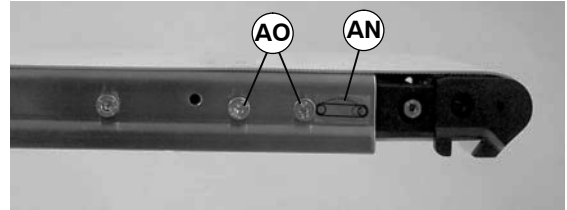

Figure 21
6. On tension end of the conveyor identified with a  label (AN of Figures 21 and 22), loosen two M6 socket head cap screws (AO) on each side of conveyor.
10. On tension end of the conveyor identified with a  label (AN of Figures 21 and 22), loosen two M6 socket head cap screws (AO) on each side of conveyor.
11. On tension end of the conveyor identified with a  label (AN of Figures 21 and 22), loosen four M6 low head screws (AO).